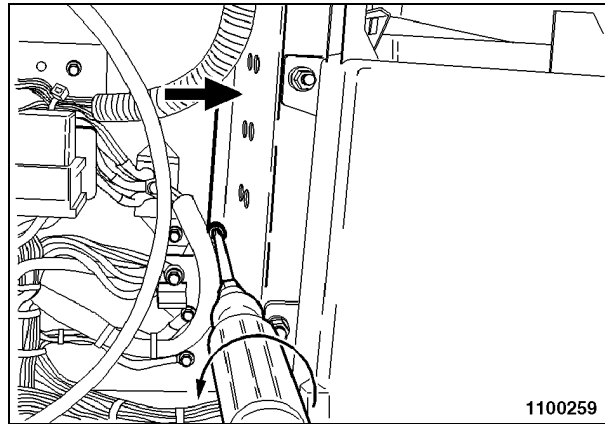

Fig. 3
- The CU is located below the plate on which the PCS is mounted. The plate is fixed to the rear wall of the driver's cab with 3 screws (Fig. 3).